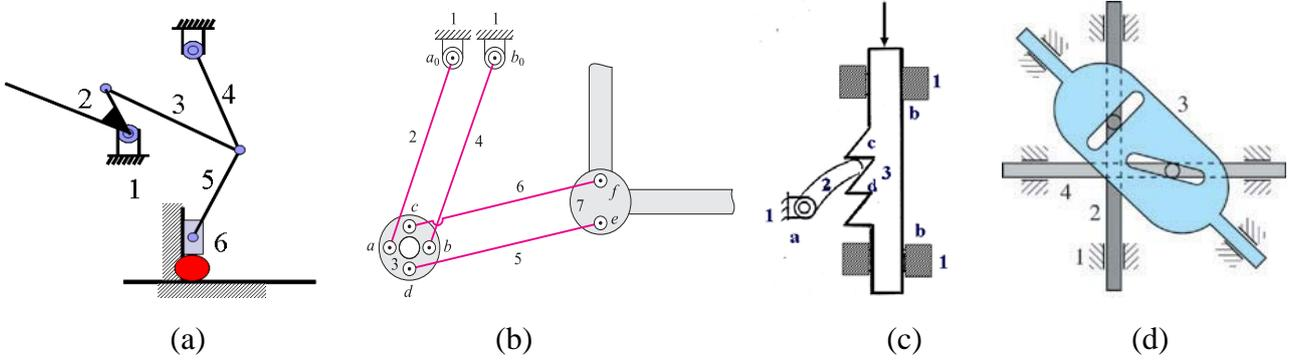

Figure P-1
1. Determine the degrees of freedom of the mechanism shown in figure P-1. (30%)